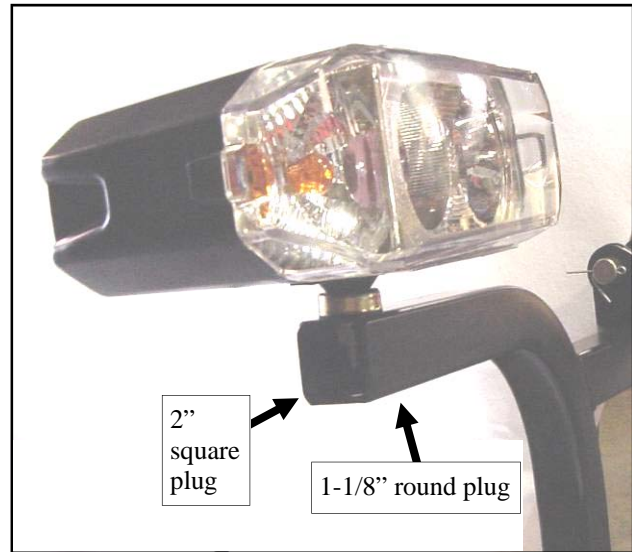

Fig. 14.1 (view of passenger's side)
14.1 Per fig. 14.1, once the lights have been properly aimed and the 1/2" hex nuts in the end of the lift frame tubing have been tightened, press the supplied 2" square plastic plugs into the ends of the tubing and the 1-1/8" round plastic plugs into the nut access hole on the underside of the lift frame tubing. Repeat for driver's side.